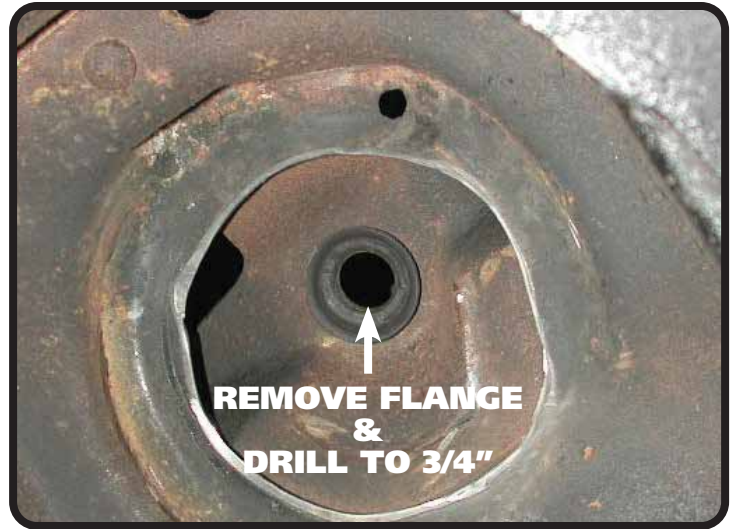

Figure 1
2. Remove the OEM bushing flange by prying it out of the frame hole. After removing the flange, drill the OEM shock hole out to 3/4". This can be done with a Unibit (Figure 1).